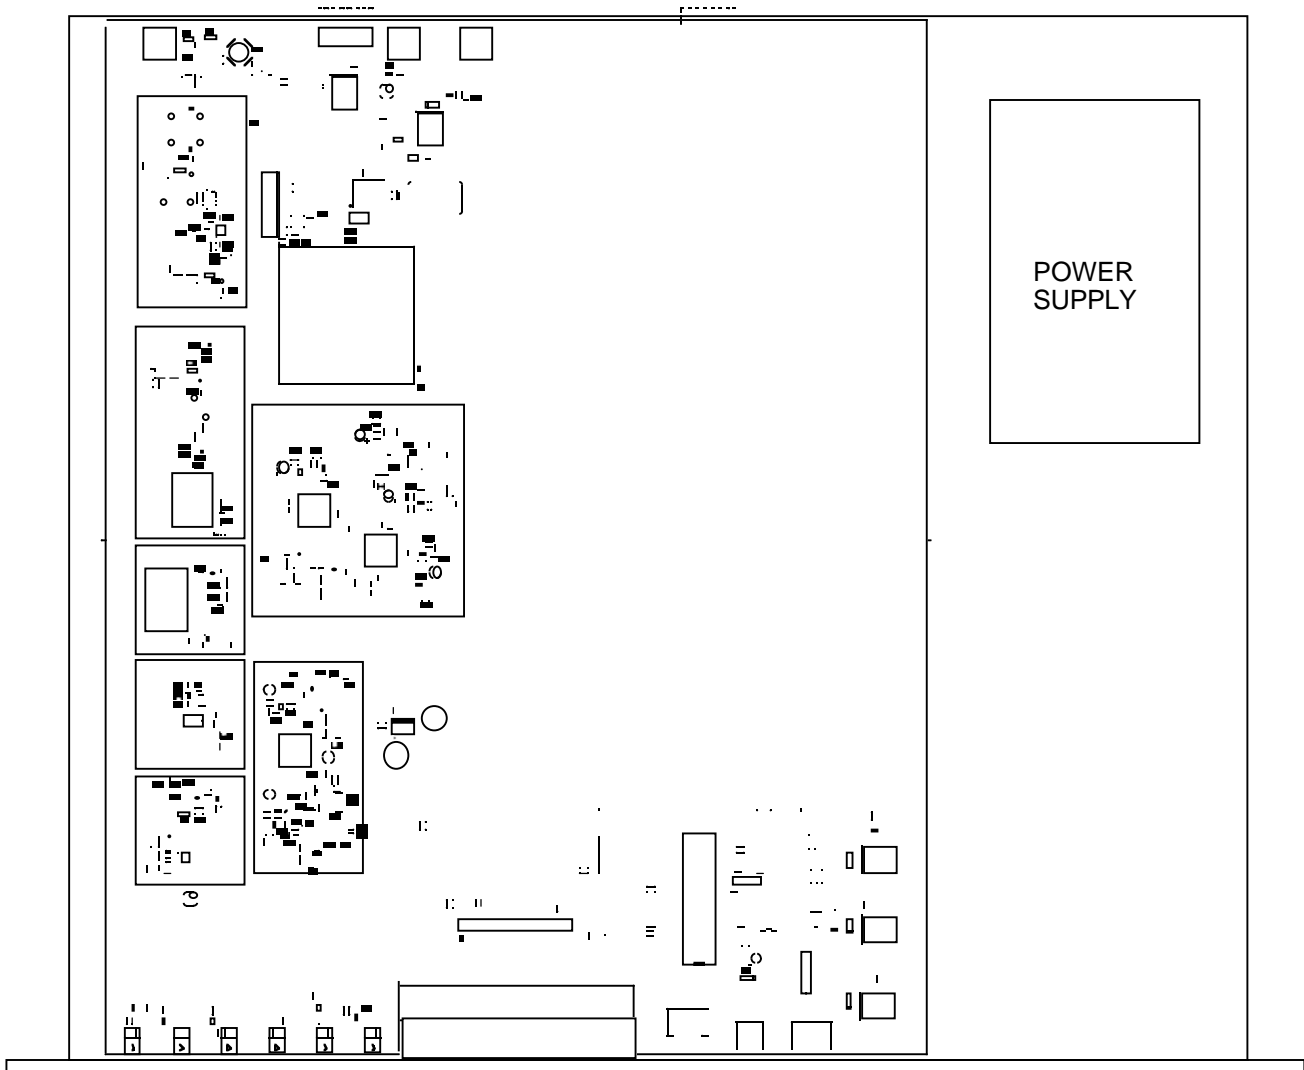

FIGURE 2.0 2015-12 Mechanical Assembly
2.1 Mechanical - The 2015-12 consists of one RF/Controller PCB housed in a 1 RU (1 3/4 inch high) by 16 inch deep chassis. A switching, ± 12 , +24, +5 VDC power supply provides power for the assemblies. The 2015-12 can be secured to a rack using the 4 holes on the front panel. Figure 2.0 shows how the 2015-12 is assembled.